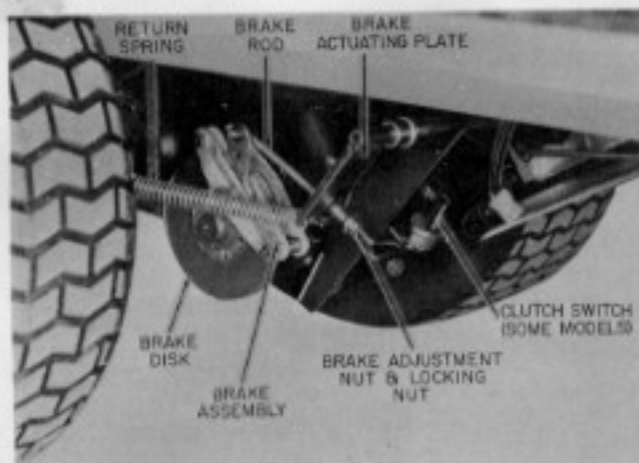

Fig. 1-19
3. Loosen the locking nut (see Fig. 1-19) located behind the brake adjustment nut.